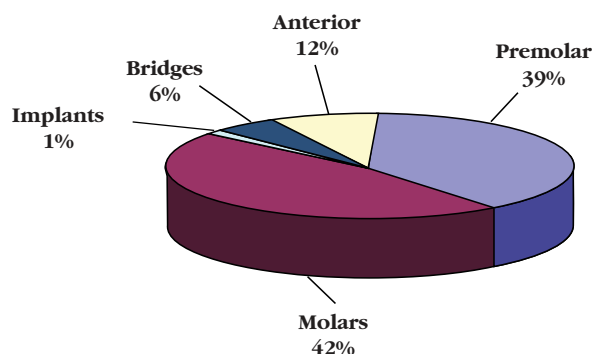

Figure 1
- Six hundred and forty restorations were recalled at year six. The restorations included 42% molar, 39% premolar, 12% anterior, 6% bridges and 1% implants (see Figure 1)